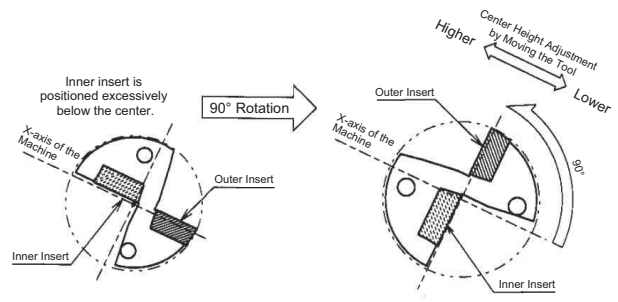

Fig.10
- Install the drill rotating 90° as shown in Fig.10. (outer insert is positioned on the upper side) and adjust the center height by moving tool in the X-axis direction. (However, this makes it impossible to adjust the cutting diameter)